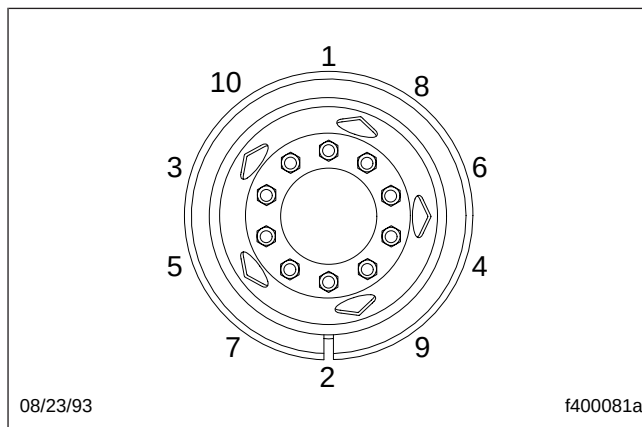

Fig. 11.7, Tightening Pattern, 10-Hole Wheels
- 21.4 Make sure all wheel nuts are tightened 450 to 500 lbf·ft (610 to 678 N·m) for Accuride wheels with unlubricated threads. Use the tightening pattern in Fig. 11.7 for